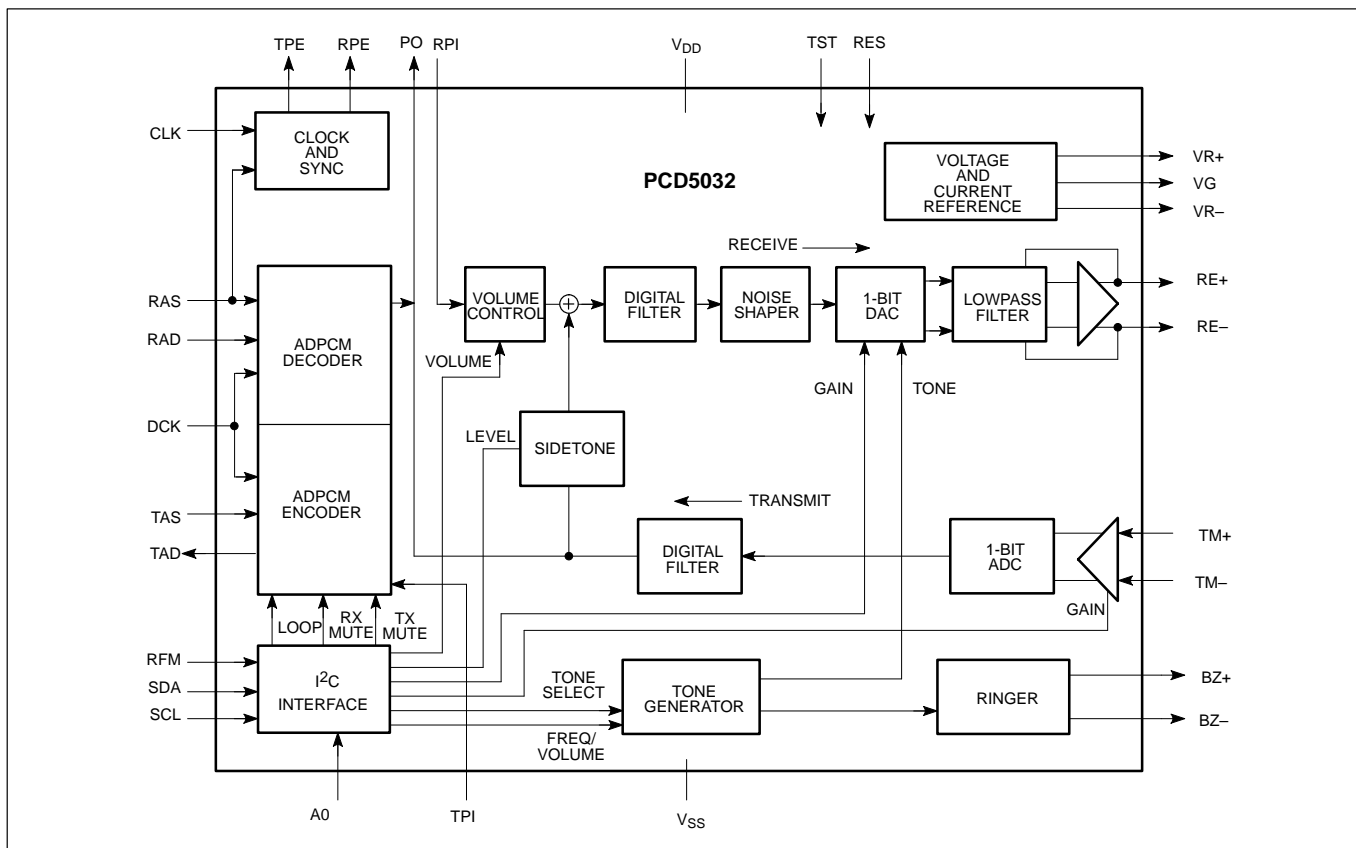

Figure 1. Block Diagram
3.1 Digital interfaces (see Fig.1 Block diagram)
3.1 Digital Interfaces (see Fig. 1 Block Diagram)